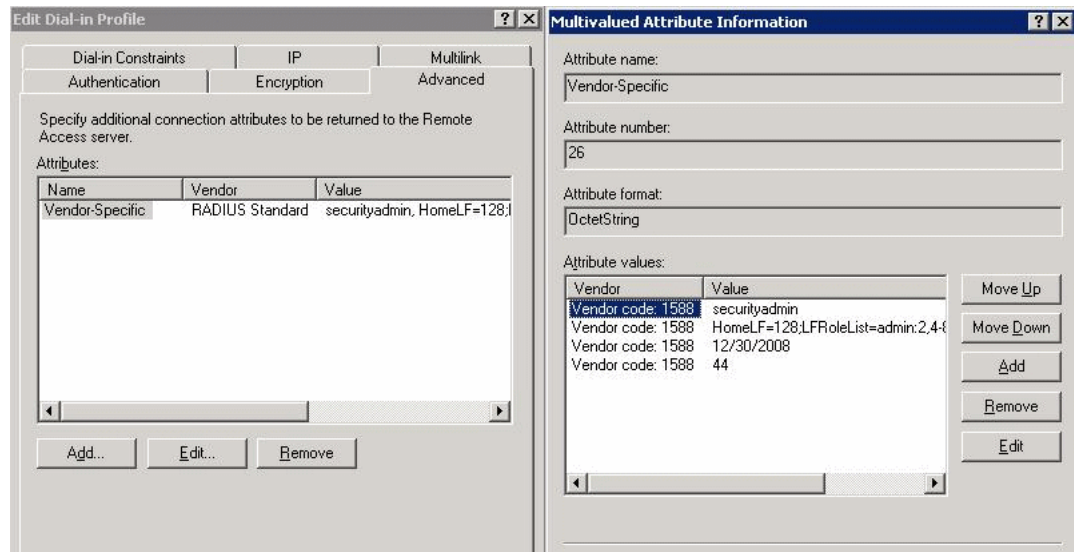

FIGURE 10 Windows 2000 VSA configuration
To configure a Windows 2000 Internet authentication service (IAS) server to use VSA to pass the admin role to the switch in the dial-in profile, the configuration specifies the Vendor code (1588), Vendor-assigned attribute number (1), and attribute value (admin), as shown in Figure 10.